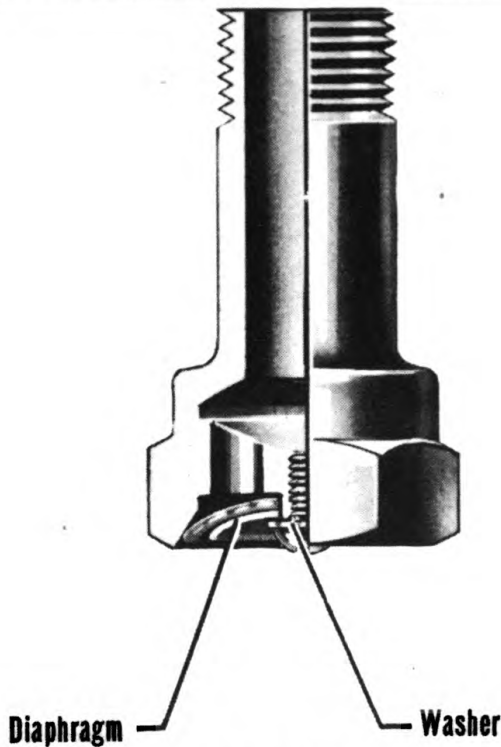

Figure 32—Cross Section of Exhaust Check Valve.
6. **Exhaust Check Valve.** (See figure 32.)